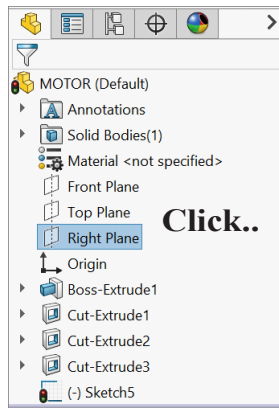

Fig. 26
Step 8. Click **Right Plane**  in the Feature Manager to select plane, **Fig. 26**.